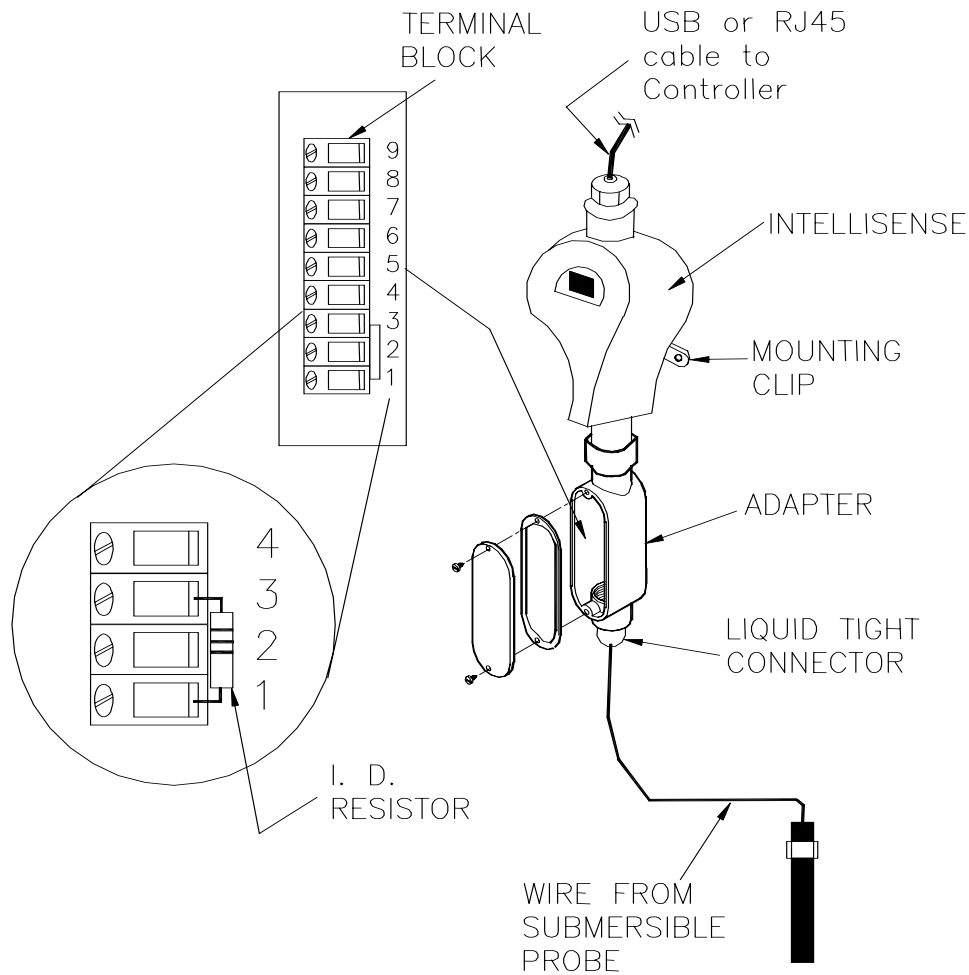

Fig. 30
Submersible toroidal probes (TSUB) and boiler conductivity probes (CCBS) are attached to the system via the *IntelliSense* Adapter's terminal block (*Fig. 30*). Loosen the (2) screws to remove the cover. Next, pass the cable from the probe through the liquid tight connector located on the bottom of the Adapter box. Strip the probe wires and attach them to the terminal block using the chart below (*see Fig 31*). *Vision* probe wire colors are in parentheses. While most *Vision* probes have an **internal** identifying (I.D.) resistor, these probes require an **external** identifying (I.D.) resistor.